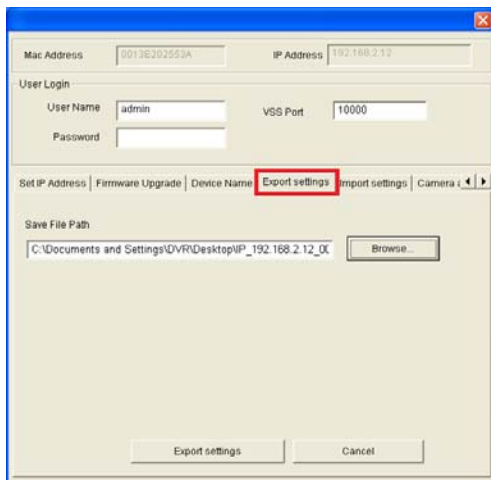

Figure 6-4
1. In Figure 6-4, click the **Import Settings** tab. This dialog box appears.